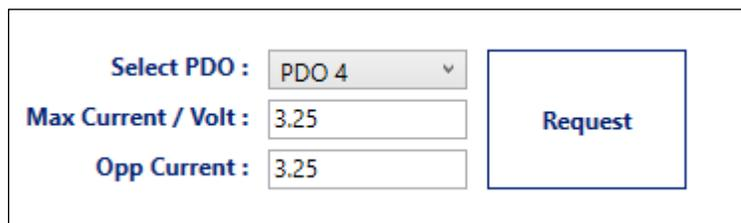

Figure 29. Select PDO and Request for Voltage
1. Select the PDO's one by one using the **Select PDO** drop-down field and request for voltage by clicking on the **Request** button, as shown in Figure 29 below.